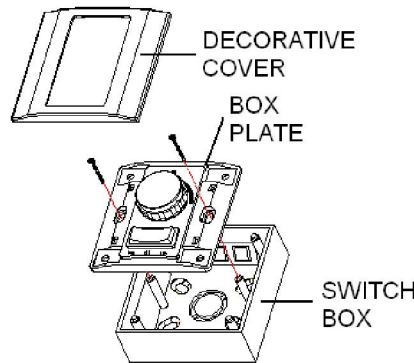

Fig. 1
2. Undo the wall control (see Fig. 1) by removing the decorative cover and box plate.